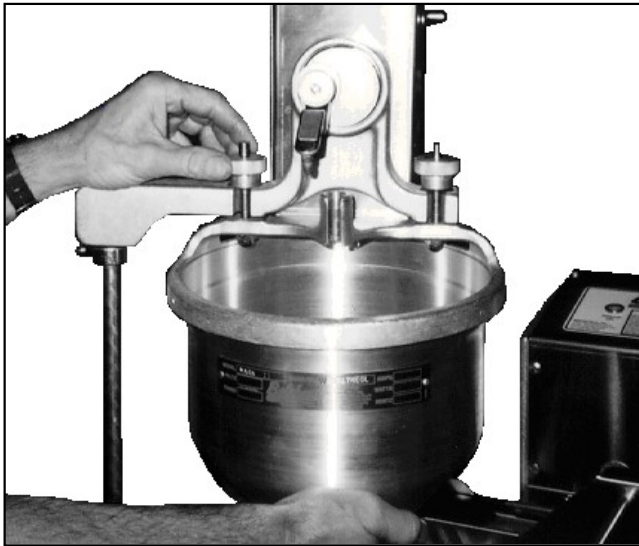

Figure 1-6. Mounting the Hopper.
2. Mount the hopper by sliding the two mounting studs on the hopper arch into the notches on the bearing strut. Secure the hopper with the thumb nuts. See Figure 1-6.